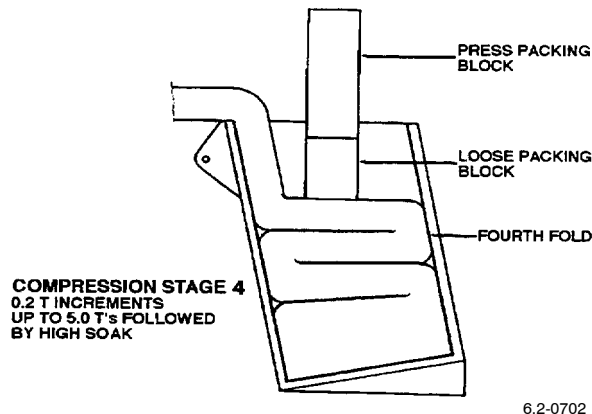

Figure 52. Compressing Deployment Sleeve - Stage 4
(1) Both indicator lights extinguish.
(2) Both displays; LOAD SET value extinguished; LOAD indicates load still applied.
a. Fold the deployment sleeve to the rear, crease the sleeve at the rear and tuck well down into the container. Push the sleeve well down so that the fold is against the front of the container (Figure 52).
c. Make sure the packing box and packing blocks are correctly aligned and using the footpedal, raise the press table until the packing blocks are just in contact (Figure 52).
(1) Audio alarm sounds (4 sec) as it makes pressure adjustments.
(2) Both displays indicate LOAD SET at 5.0 T's.
(3) After alarm stops, both indicator lights illuminate and press table starts to raise.
(4) Both displays indicate progressively increasing load up to a maximum of 5.3 T's.